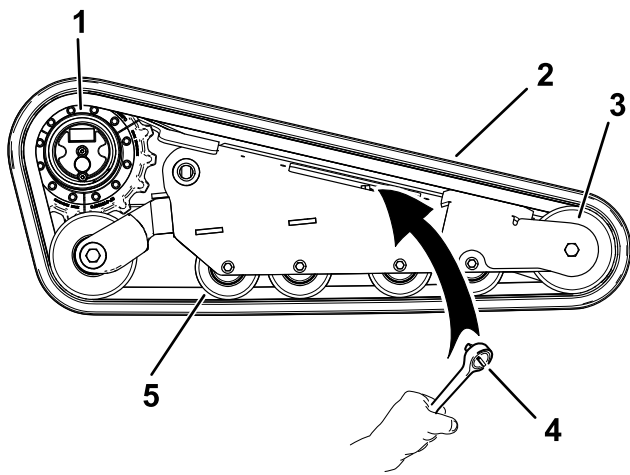

Figure 74
7. Using a 1/2-inch drive ratchet, release the drive tension by turning the tensioning screw clockwise (Figure 72 and Figure 74).
- Wrap the new track around the front wheel (Figure 74).
- Push the track under and between the road wheels and wrap it around the rear tension wheel (Figure 74).